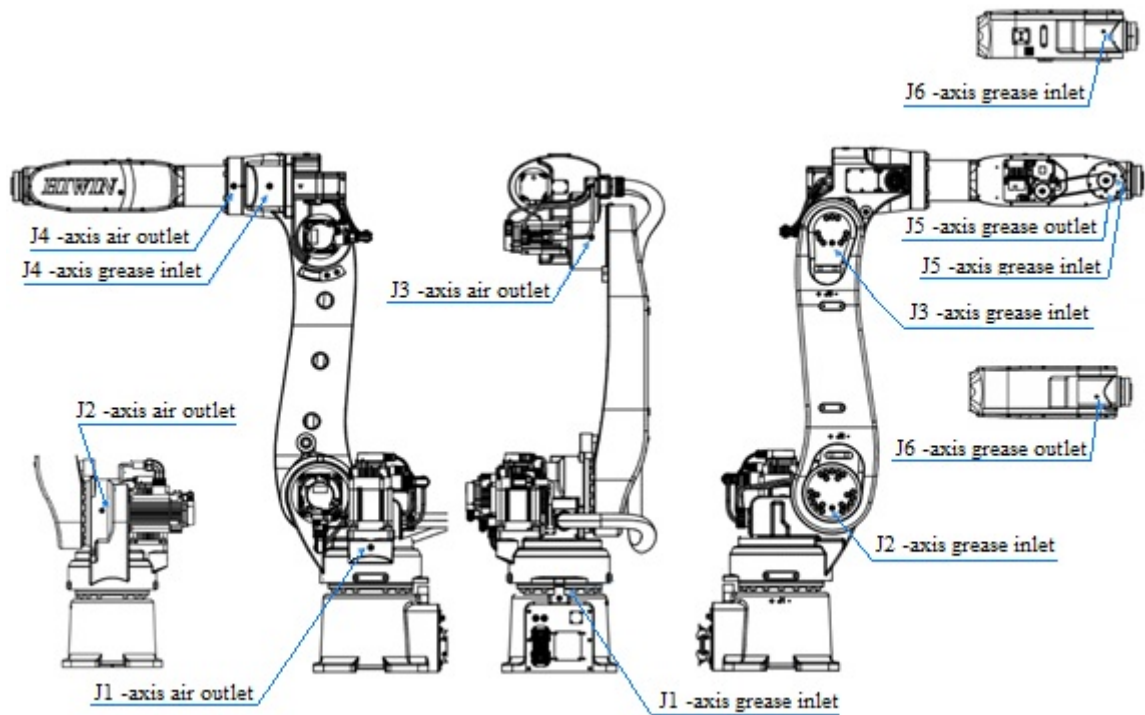

Figure 5-8 Lubrication and grease inlet/outlet positions
- ☉ The grease inlets and the outlet vents are shown in Figure 5-8.